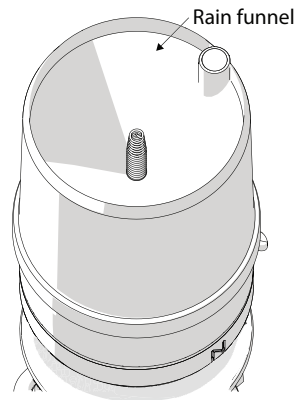

Figure 22 Rain funnel and pyranometer
- a. Rain funnel (Figure 22)
- b. Pyranometer (Figure 22)